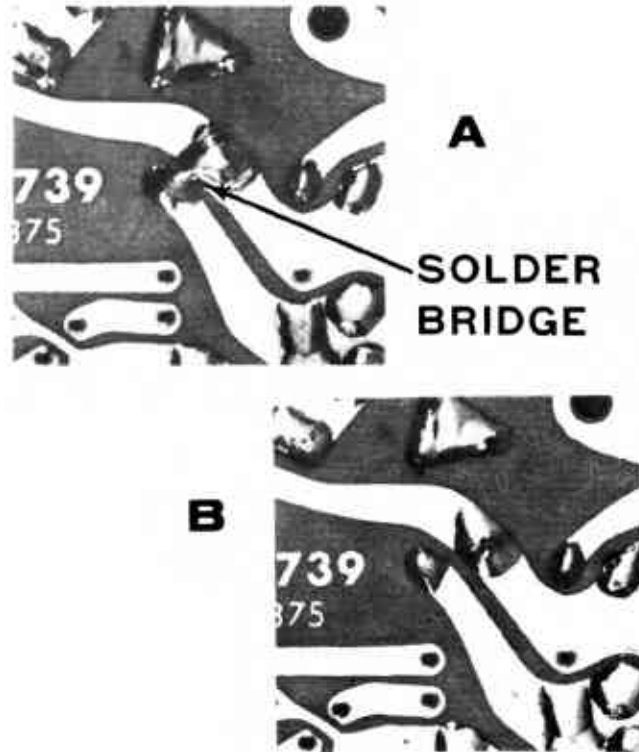

Figure 6.6: Solder Bridges
The other problem is a solder bridge. Figure 6.6 on page 10 shows this. (The H8 8080A/Z80 64K RAM ORG0 V1.3 has a solder mask that helps reduce the chance for a solder bridge.)
A solder bridge between two adjacent foils is shown in Figure 6.6(A). Figure 6.6(B) shows how the connection should appear. A solder bridge may occur if you accidentally touch an adjacent previously soldered connection, if you use too much solder, or if you “drag” the soldering iron across other foils as you remove it from the connection. A good rule to follow is: always take a good look at the foil area around each lead before you solder it. Then, when you solder the connection, make sure the solder remains in this area and does not bridge to another foil. This is especially important when the foils are small and close together. NOTE: It is alright for solder to bridge two connections on the same foil. Use only enough solder to make a good connection, and lift the soldering iron straight up from the circuit board. If a solder bridge should develop, reheat the bridge and use the desoldering braid or suction device to remove the solder.